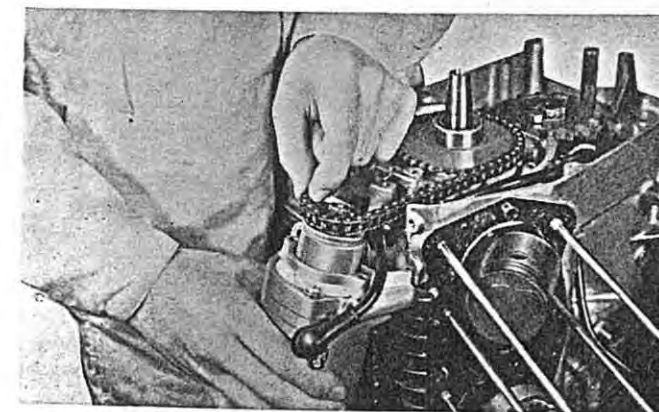

Fig. 11-39.
- d. While loosening 4 bolts of 6 mm fitted on the crank case and taking out the starting motor from the engine case, it will be separated from engine by removing the starting sprocket from the chain. (Fig. 11-39)